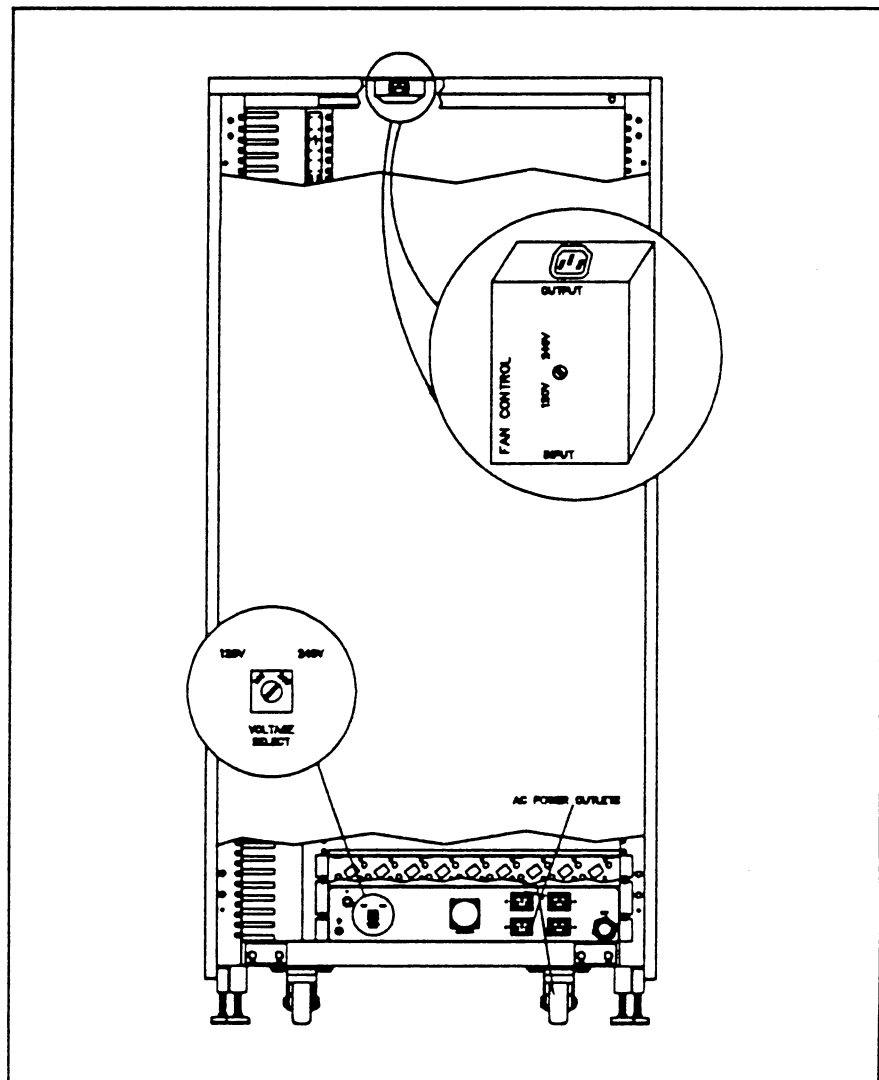

Figure 2-2. MDIF Series Fan Control and Voltage Select Switches
4. Using a flat blade screwdriver, turn the Voltage Select switch on the power controller so that it is set to the appropriate voltage (United States/Canada = 120; Europe = 240). The Voltage Select switch is shown in Figure 2-2.
5. In the same manner, set the appropriate voltage on the fan control box on the ceiling (located in center) of the cabinet as shown in Figure 2-2.